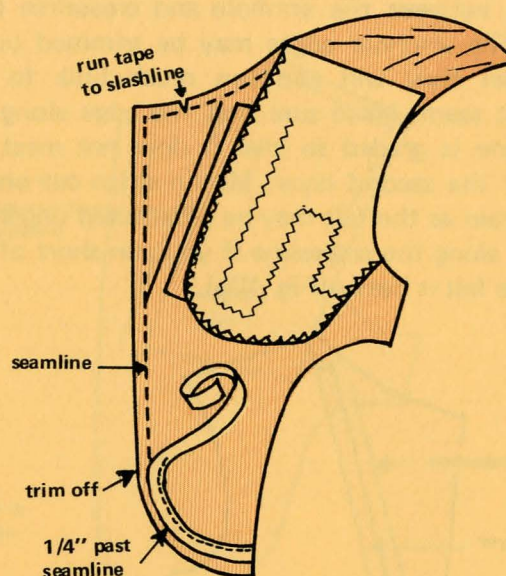

Fig. 13. Substitute tape for seam allowance of interfacing.
1. You can substitute seam or hem tape for the seam allowance of the interfacing. Lay the tape along the lapel and front edge of the interfacing about  $\frac{1}{4}$ " inside the seamline of the interfacing. This one edge will lay inside the body of the garment rather than in the seam allowance. Extend the tape from the lower edge of the interfacing to the slashline marked at the beginning of the neckline on the pattern (Fig. 13).